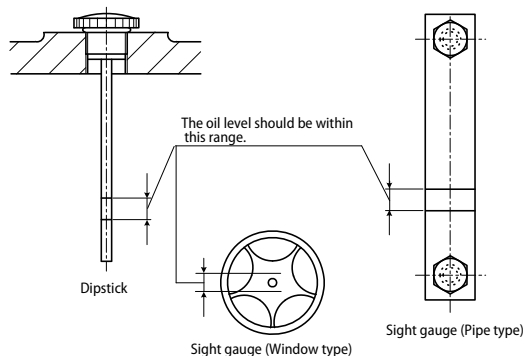

Fig. 23
- Please see Fig. 23 and 24 (page 15) for grease nipple and grease relief plug positions.
- Supply oil through the inlet on the top of the main unit. Check the oil level with a dipstick or oil sight gauge (Fig. 23).
During the oil replenishment process, ensure that loose nuts, bolts washers dust, water and other foreign materials do not enter the reducer. The reducer will not be sufficiently lubricated if the oil level is below the recommended range. However, if the oil level is above the recommended range, the oil temperature will rise and cause the oil to deteriorate (See Fig. 23).